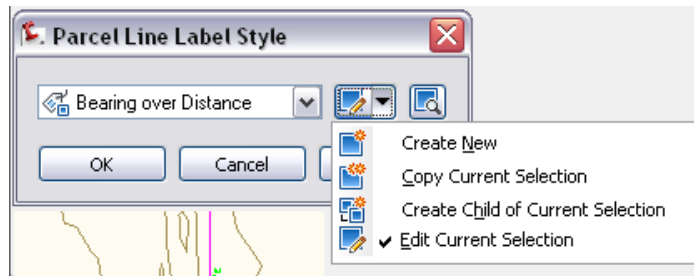

Figure 12: Dialog box for accessing label style editing tools
- 2 This opens the <Object> Label Style dialog box as shown in figure 12 from which you can perform multiple commands to either create a new style, copy the existing style or child style, or edit currently selected style.